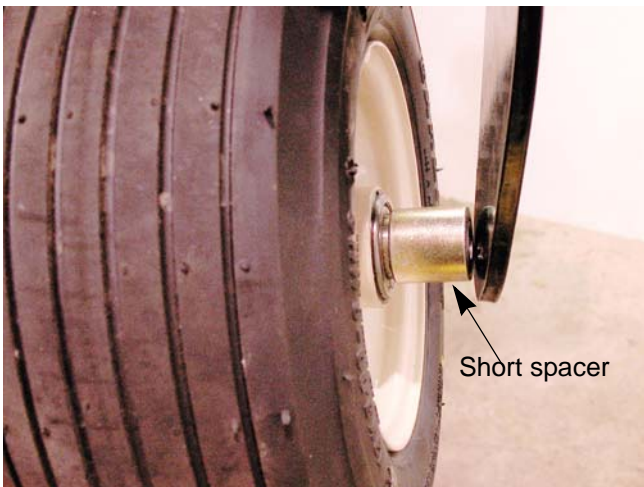

Figure 6.68
3. Slide the tire and wheel assembly out of the yoke. See Figure 6.68.